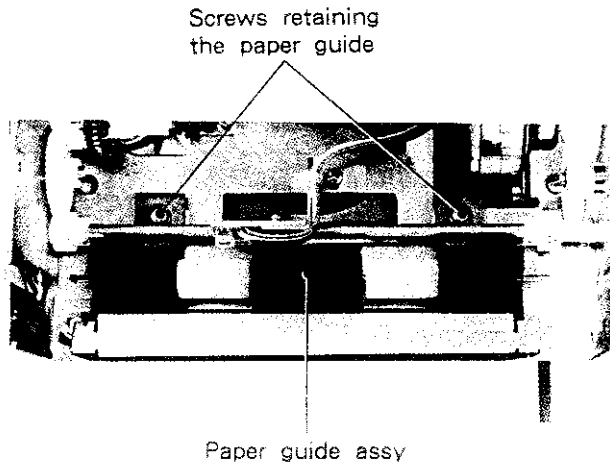

Fig. 2-16
8. Remove screws retaining the paper guide assy. (Fig. 2-16)